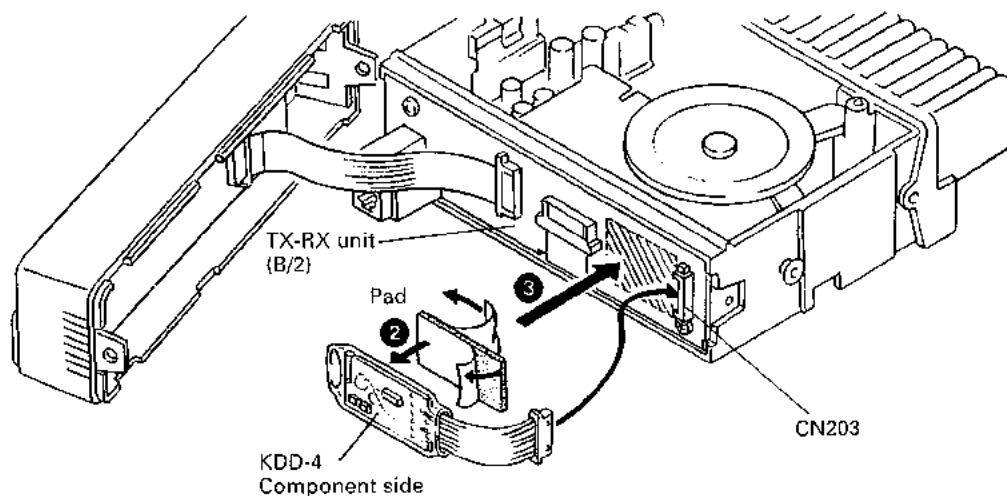

Fig. 6
1. Install the KDD-4 on the TX-RX unit (B/2). (Fig. 6)